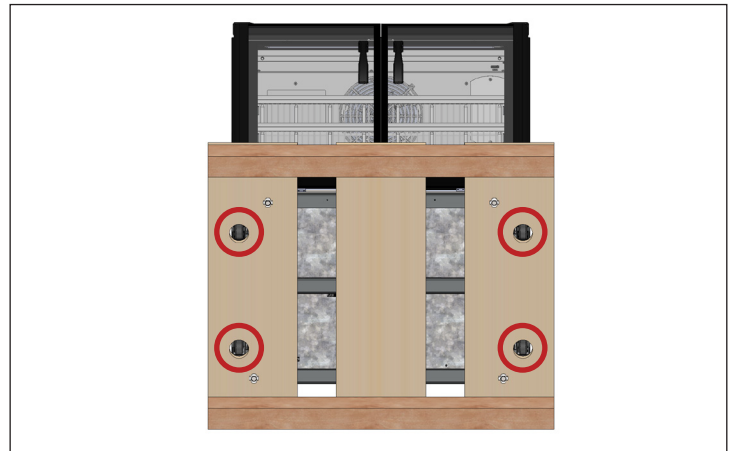

Fig. 2. Example of shipping bolt locations.
5. Remove all shipping bolts securing the skid to the bottom of the appliance. See fig. 2.